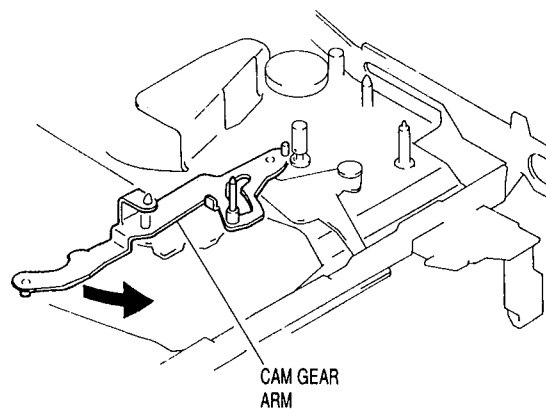

Fig. 3-39
- 1) Move the cam gear arm in the direction of the arrow. (See Fig. 3-39)